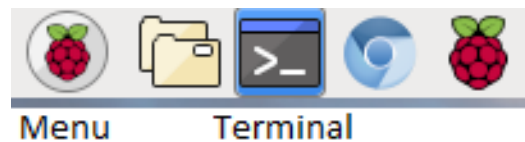

Figure 9: Terminal button
5. After connecting to the internet make sure your Raspberry Pi is up to date with the latest versions of Raspberry Pi OS. To update the system open a terminal by clicking on the terminal symbol in the left upper corner (see figure 9).